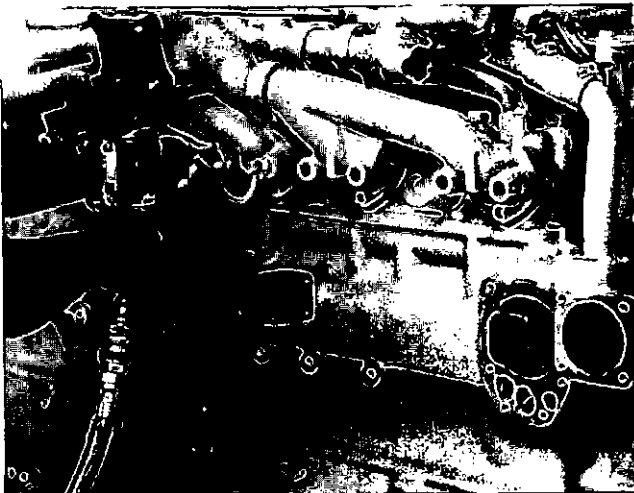

Fig. 0-18. Remove The Capscrews From The Exhaust Manifold.
2. Remove the capscrews, lockwashers and lockplates that hold the exhaust manifold to the cylinder block, Fig. 0-18.